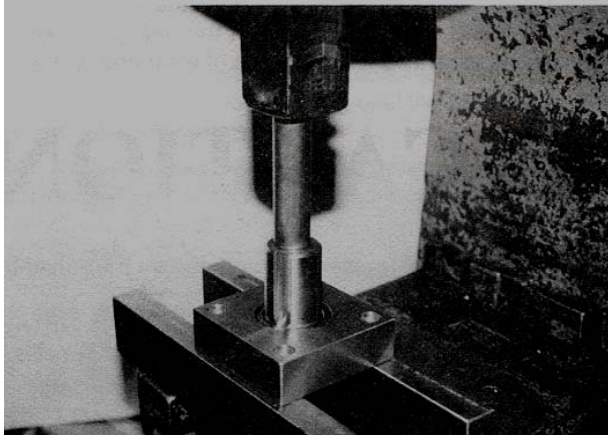
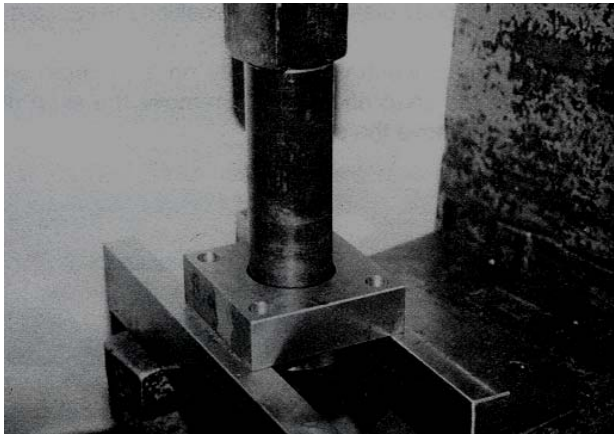

FIGURE 40
FIGURE 41
7) Position the driveshaft assembly in a suitable arbor press. Determine that the outer race of the bearing is properly supported. Press the bearing/driveshaft assembly from the bearing block. FIGURE 40. Reposition the assembly and press the bearing from the bearing block. FIGURE 41.